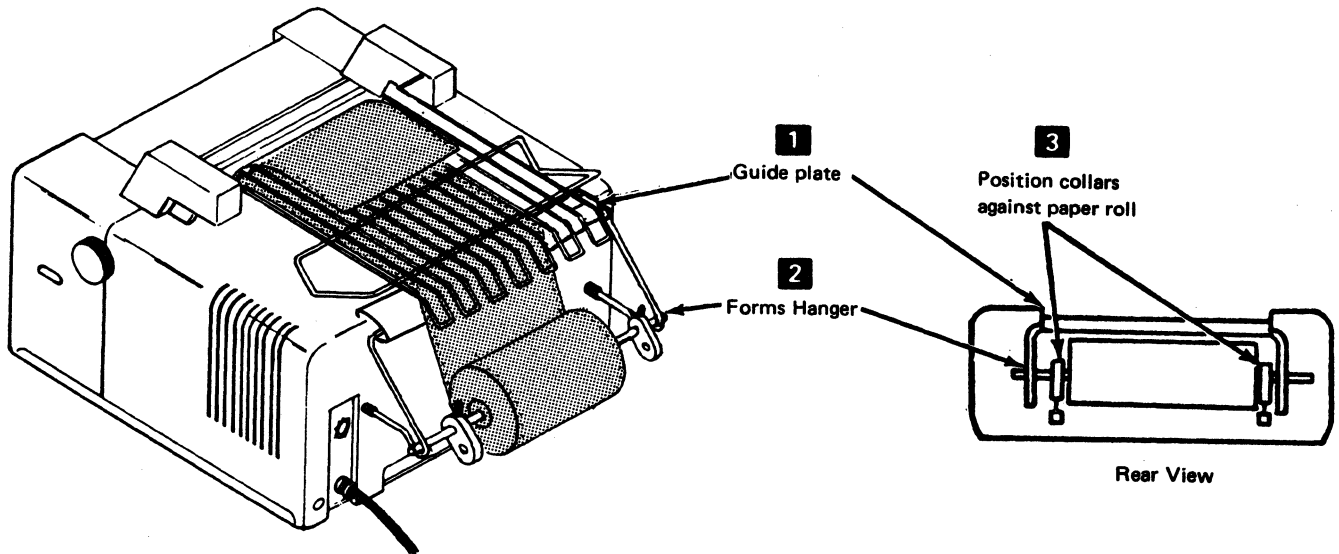
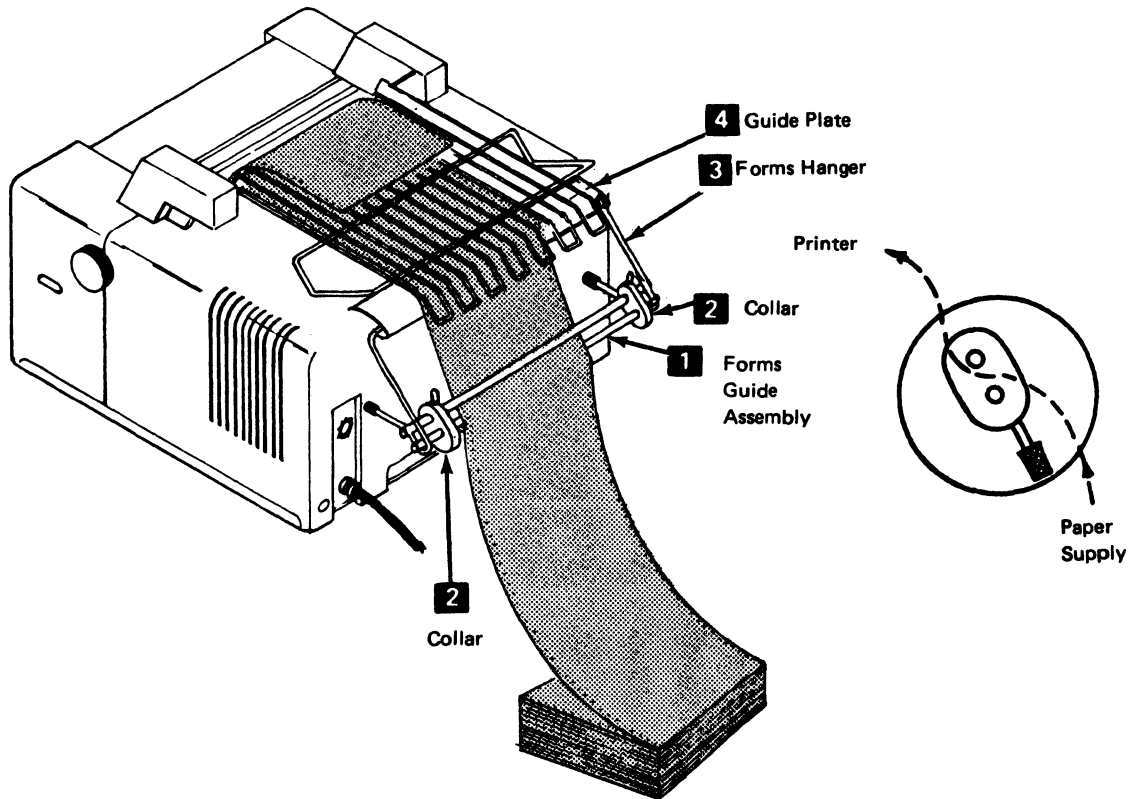

Figure 4-2. Paper Roll Holder
Figure 4-3. Forms Guide
See Figures 4-2 and 4-3.
The paper roll holder and forms guide has two uses: (1) as a paper roll holder (Figure 4-2) or (2) as a forms guide (Figure 4-3).
Roll Paper (See Figure 4-2).
Continuous Forms (See Figure 4-3.)